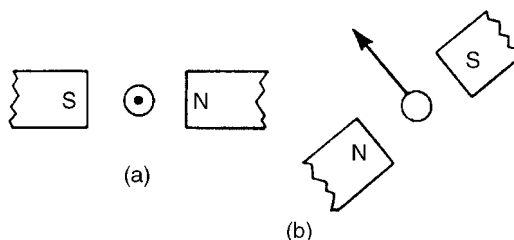

Figure 8.20
- 3 For the current-carrying conductor lying in the magnetic field shown in Fig. 8.20(a), the direction of the force on the conductor is:
- 4 For the current-carrying conductor lying in the magnetic field shown in Fig. 8.20(b), the direction of the current in the conductor is: